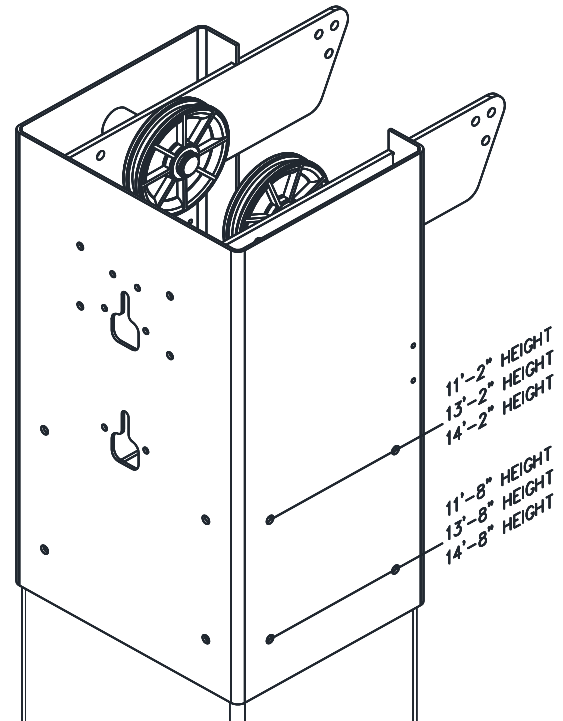

Fig. 5 – Column Extension Assembly
- 6) Assemble column extension to column by lining up the correct set of holes and using the 3/8"-16 x 3/4" lg. hex flange head bolts, **Fig. 5**. Repeat for opposite column and extension.
- 9) Attach 1/2" O.D. extension spring to hole located on bottom side of idler column lock pawl and install using 5/8" shoulder bolt and lock nut, **Fig. 5**. Attach 3/8" O.D. spring the same as power side.